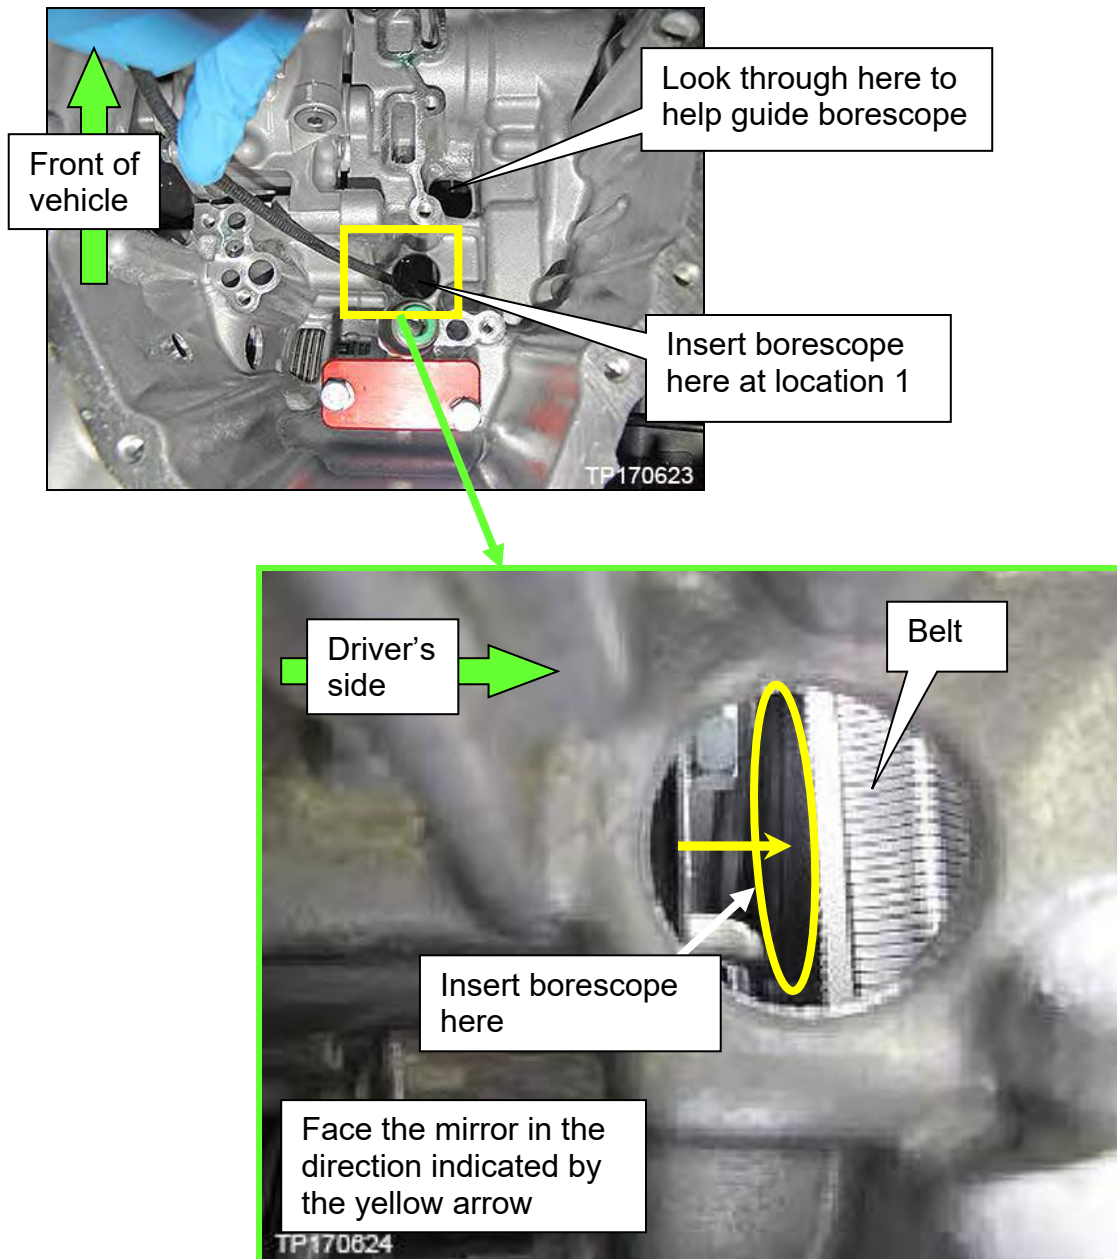

Figure 5C
- Proper pressure has been achieved when the CVT belt moves while the driver's side (LH) front wheel is rotated and the vehicle is in NEUTRAL with the passenger's side (RH) front wheel secured.
c. Insert the borescope where shown in Figure 5C as follows: